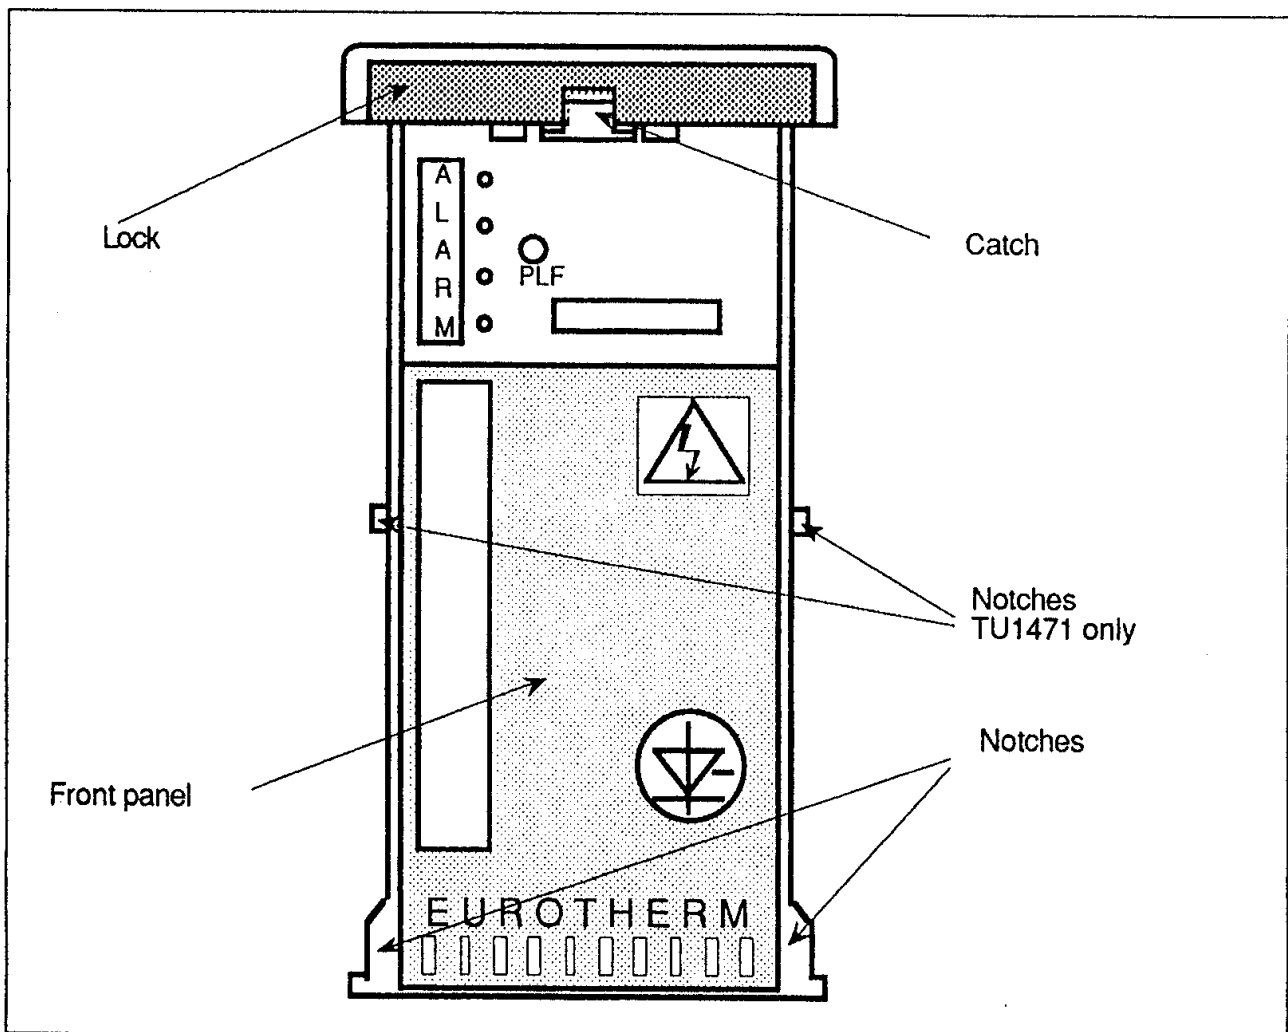

Figure 2-5 Front panel
- Insert a thin screwdriver (3.5 mm) and push the inner catch (see figure 2-5).
- Insert the notches of the front panel completely in the lateral grooves of the heatsink (see figure 2-5).
- remove the front panel (see figure 2-5)